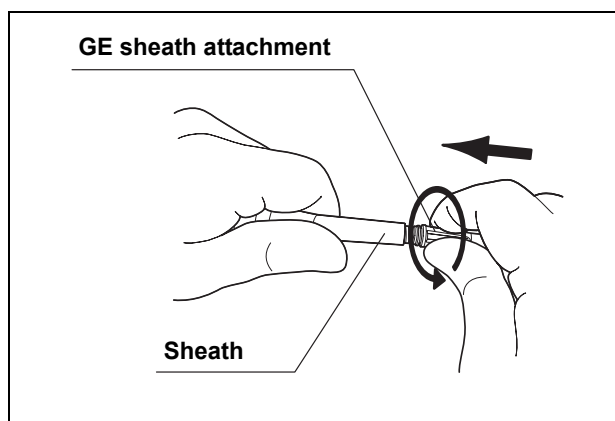

Figure 4.5
1. Insert the screw section of the SonoSurg GE sheath attachment (T3300) into the screw section of the sheath. Then, rotate the attachment counterclockwise with your fingers until it stops (see Figure 4.5).